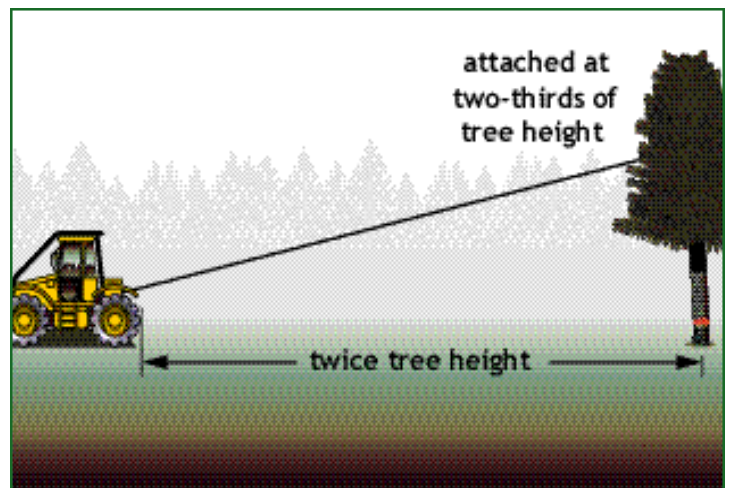

Figure 3 Attachment point for directional felling
- 24 Before any cutting begins, ensure the winch cable is correctly attached to a suitable strop placed around the trunk at a point high enough to give adequate leverage and retain control of the direction of fall of the tree (see Figure 3). If the condition of the tree allows, it is good practice to test the strain before felling.